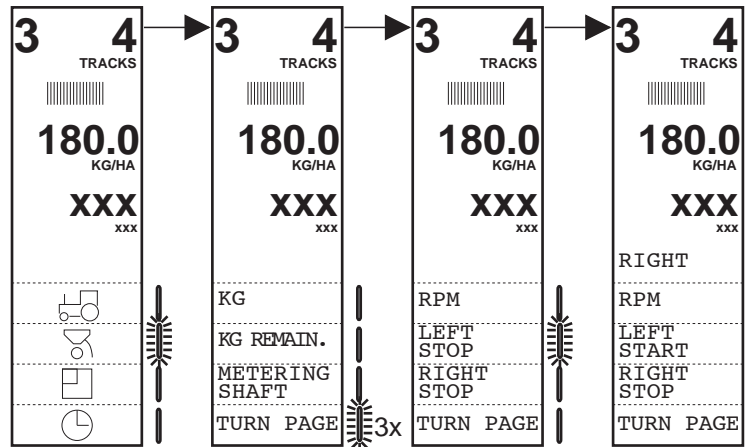

Fig. 22 - 28 switching off the left side
- For when you commence operation and your seed drill has only one metering device, input the value of half of the working width, see p. 22 - 16. If your seed drill has two metering devices switch one side off, see Fig. 22 - 28. The measured area and the metered amount will be halved automatically.